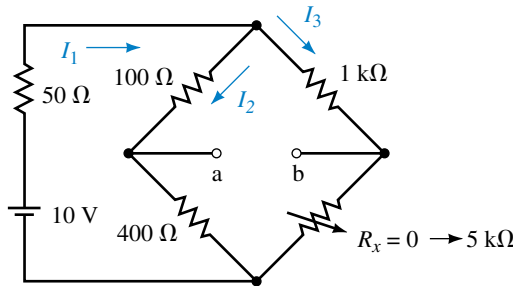

FIGURE 7-59
16. Refer to the circuit of Figure 7-59: